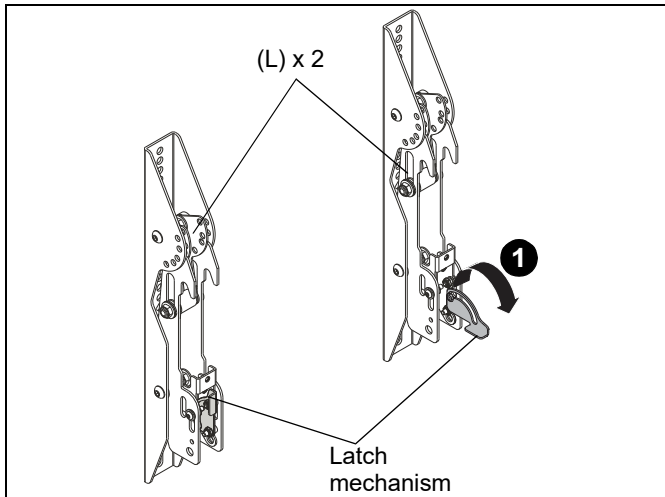

Figure 17
1. Lower the latch mechanism on each interface bracket (L). (See Figure 17)
1. Ensure that the latch mechanisms on interface brackets (L) are already lowered. (See Figure 17)